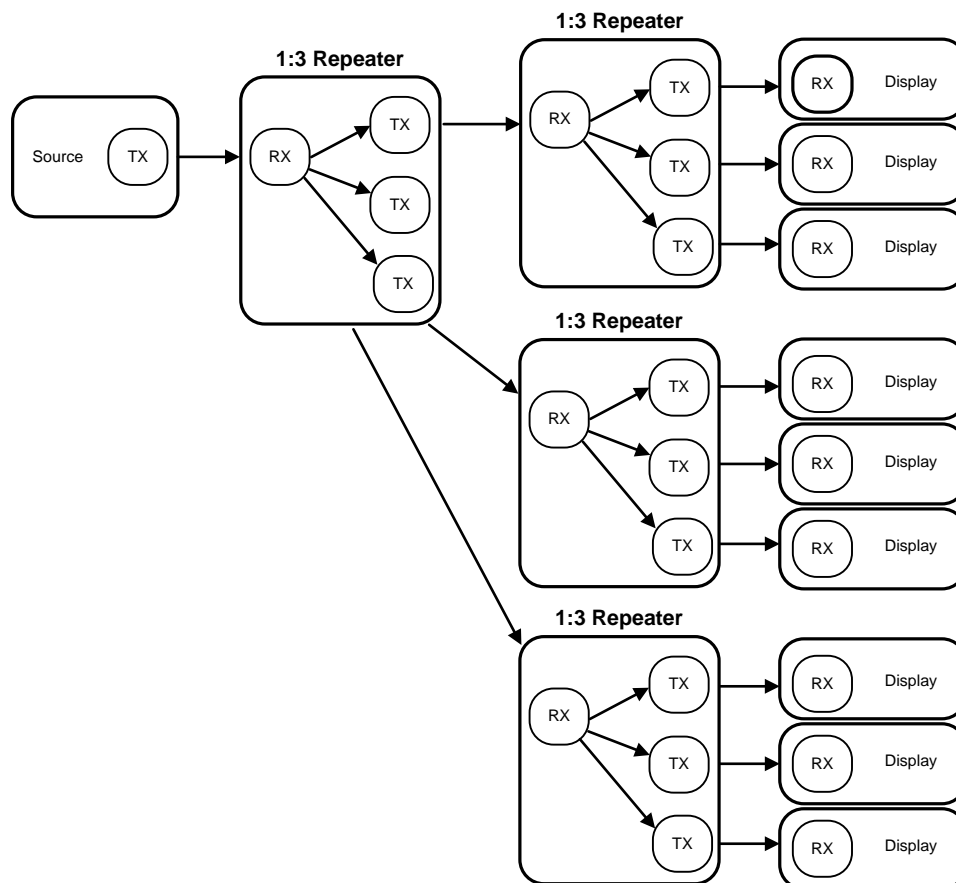

Figure 24. HDCP Maximum Repeater Application
In the HDCP repeater application, this document refers to the DS90UH947-Q1 as the HDCP Transmitter (TX), and refers to the DS90UH948-Q1 as the HDCP Receiver (RX). Figure 24 shows the maximum configuration supported for HDCP Repeater implementations. Two levels of HDCP Repeaters are supported with a maximum of three HDCP Transmitters per HDCP Receiver.